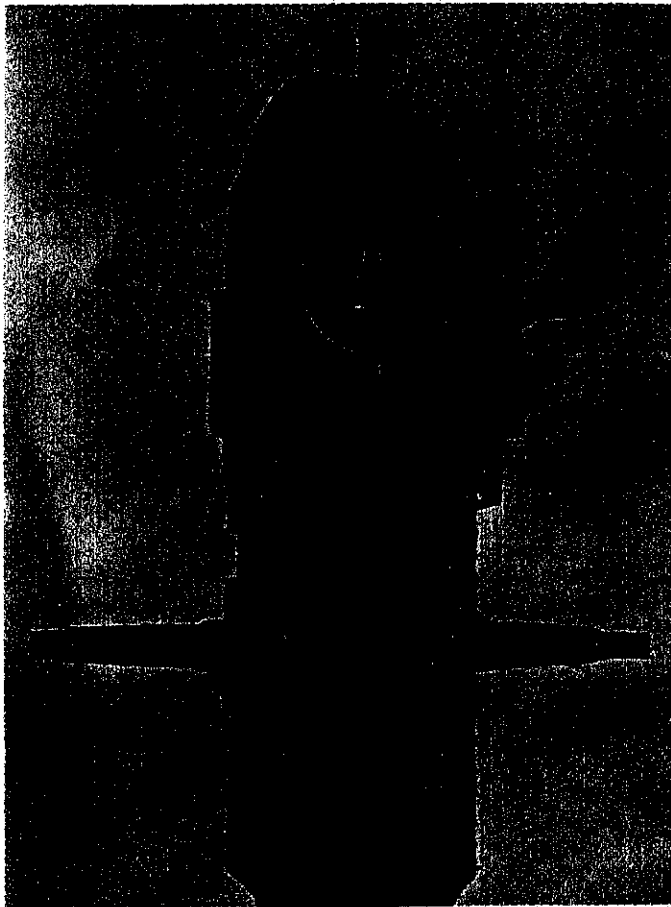

FIGURE 9. REMOVING PISTON PIN
14. The piston pin is assembled to the piston with a light press fit. In order to remove the pin without damaging the pin bosses in the piston, heat the bosses slightly, such as by placing on a hot light bulb. This temperature increase will enlarge the bosses sufficiently to enable the pin to be driven out with a small punch as shown in Fig. 9.